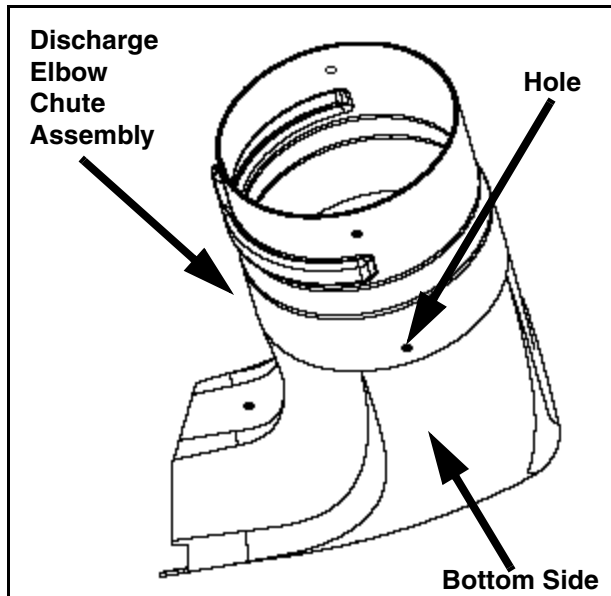
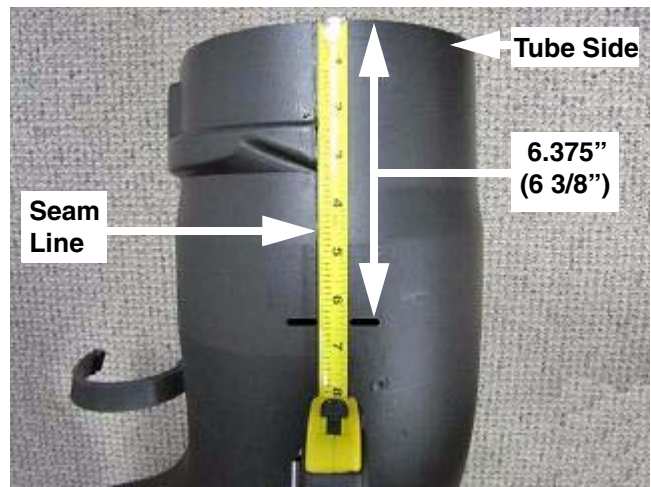

FIGURE 5
FIGURE 6
5. Check the discharge elbow chute assembly (631-04300) for the hole called out in Figure 5.
6. If the hole called out above in Figure 5 is not present in the discharge elbow chute assembly you will need to drill the bottom side hole for this Service Kit.
7. If the bagger chute adapter is installed on the discharge elbow chute assembly, remove the two (2) ratchet fasteners that secure the bagger chute adapter to the discharge elbow chute assembly. Set the parts removed to the side for re-installation in step 14.
8. Measure down from the tube side on the bottom side of the discharge elbow chute assembly, 6.375" (6 3/8") and make a mark. **NOTE: Use the seam line as a reference guide. See Figure 6.**